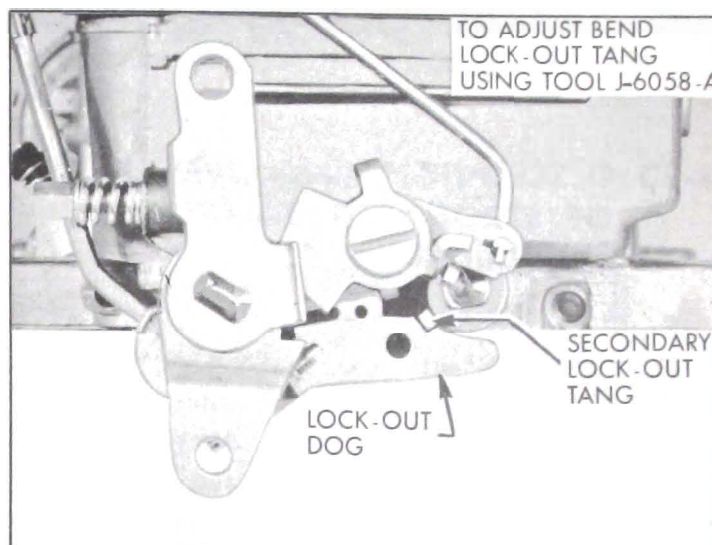

Figure 3-59—Secondary Throttle Lock-Out Adjustment
25. *Adjust Secondary Throttle Lock-Out.* Open primary throttle valves slightly to clear fast idle cam and manually open and close choke valve. Lock-out tang on secondary throttle should freely engage in notch of lock-out dog while barely missing edge of notch. If necessary to adjust, bend tang on secondary throttle lever using Tool J-6058-A. See figure 3-59.